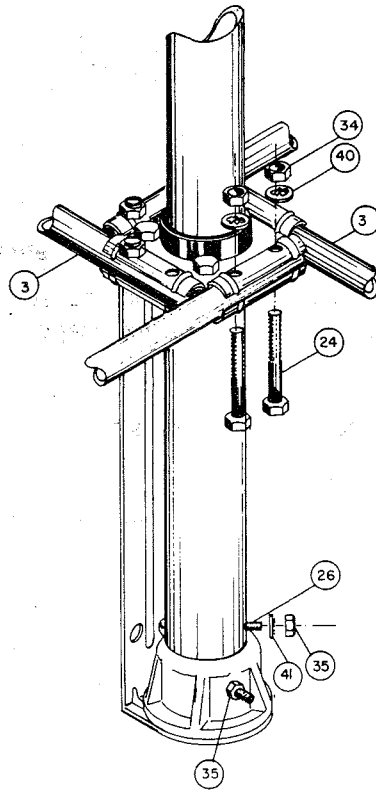

Figure 2
() Referring to Figure 2, assemble the $\frac{7}{8}$ " x 25" R1 tubes (item 3) into brackets, align the holes and fasten with $\frac{1}{4}$ " x 1 $\frac{1}{2}$ " screws, nuts, and lockwashers (items 24, 34, and 40).